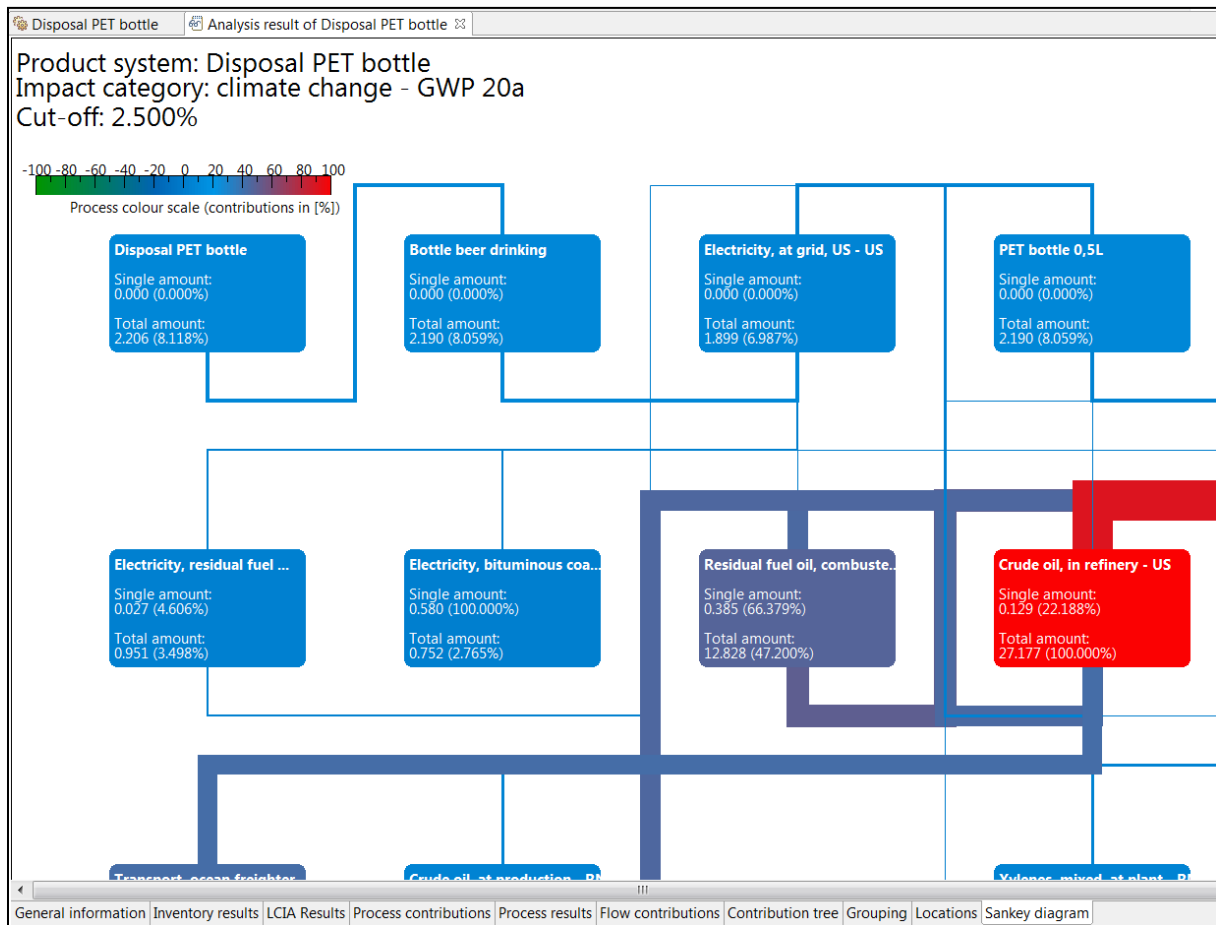

Figure 4, Sankey Diagram of “PET bottle” analysis
- Find the “Sankey diagram” tab. It shows that the high impact ‘climate change-GWP 20a’ comes mostly from the ‘Crude oil, in refinery’. (Figure 4,)